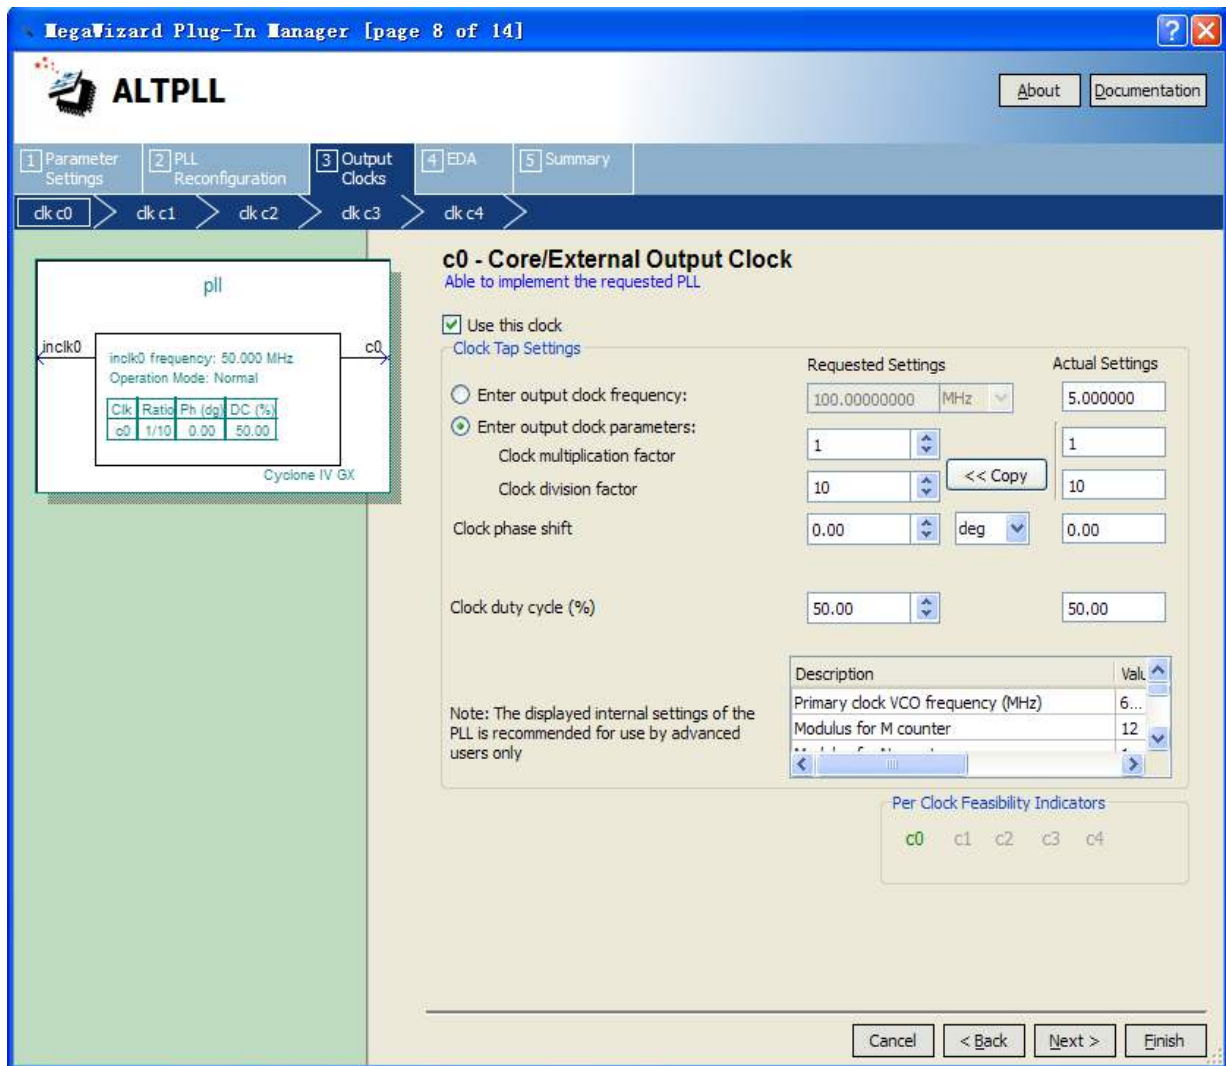

Figure 3-12 MegaWizard Plug-In Manager [page 8 of 14] Selections
- Click Next four times, In the MegaWizard Plug-In Manager [page 8 of 14] window, make the following selections (see **Figure 3-12**).